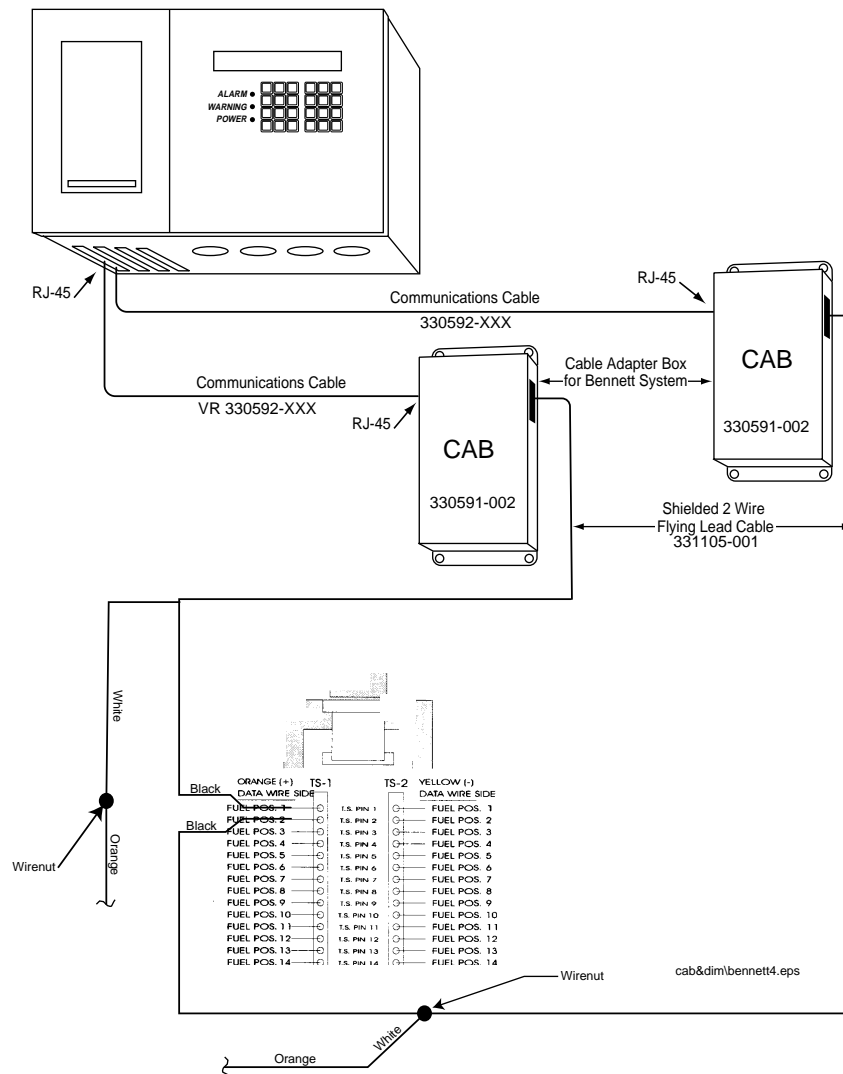

Figure 7. Example Bennett Pump Terminal Strip Installation Diagram
- Bennett Pump Terminal Strip Box 1-16, 17-36 (see Figure 7).